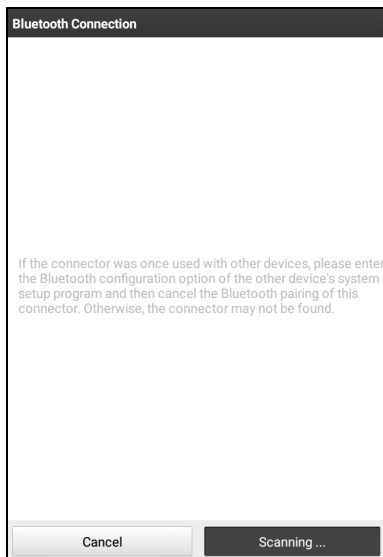
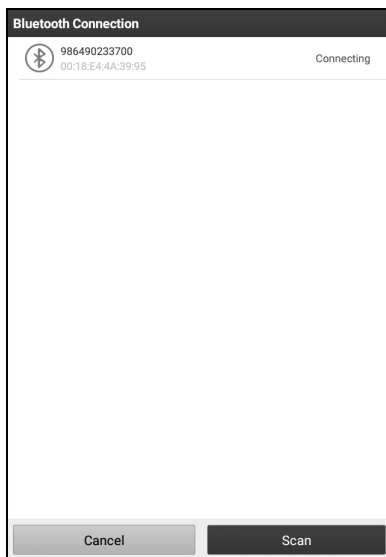

Fig. 4-17
Fig. 4-18
2. Check the box “Use Wi-Fi communication mode”, the system will search for VCI module automatically. See Fig. 4-17 & Fig. 4-18.